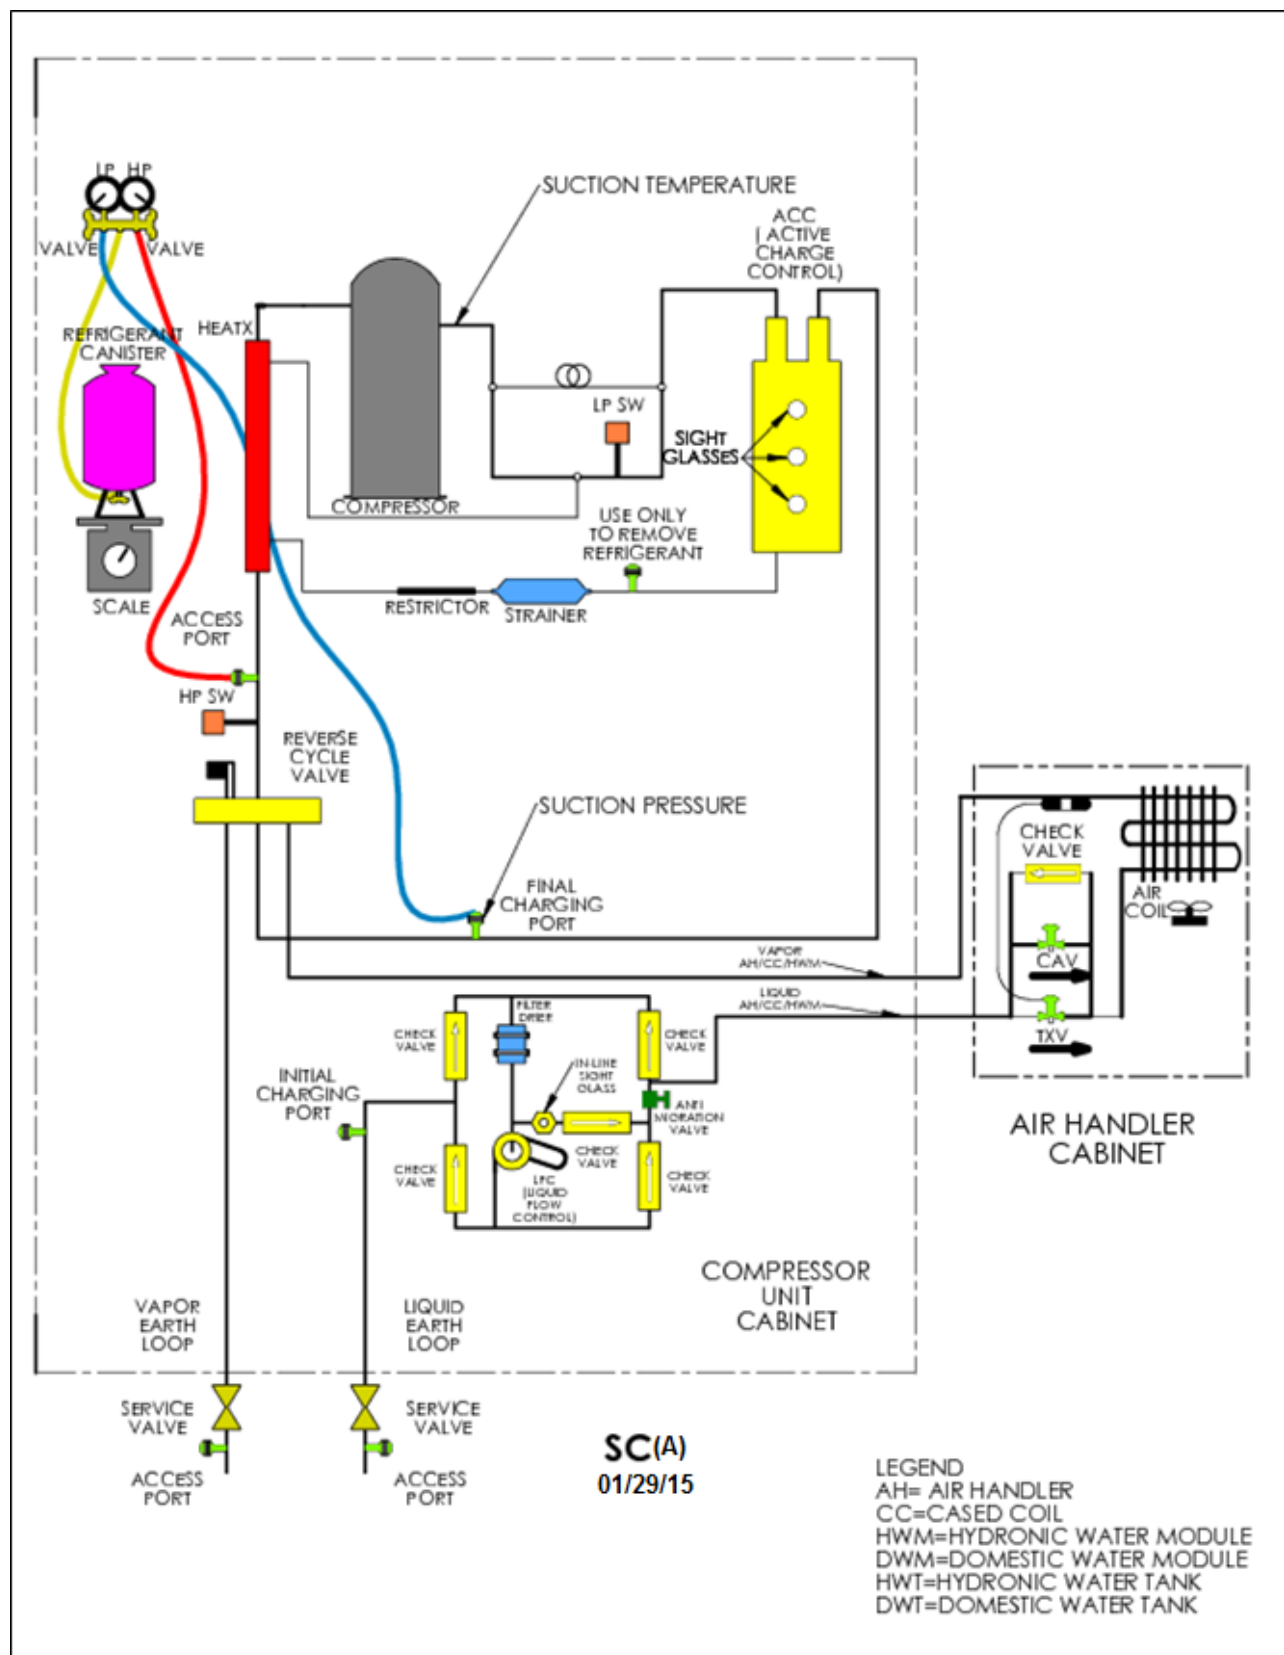
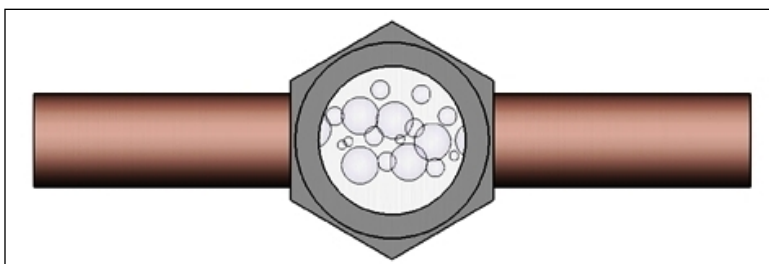
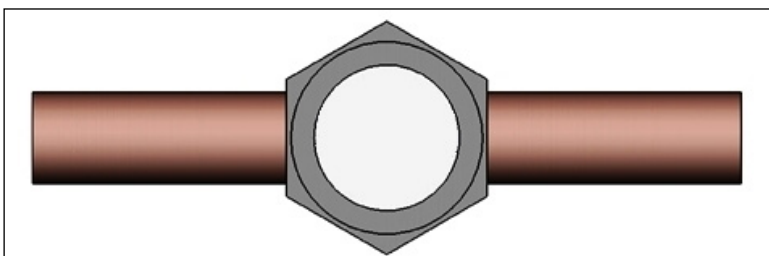
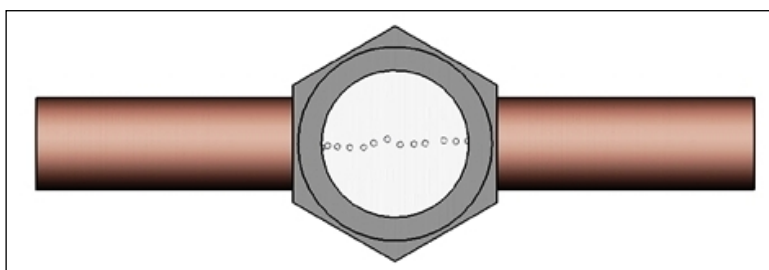

Figure 32. Suction Pressure and Temperature Measurements
Figure 33. Many Bubbles-Inline Sight Glass
Figure 34. Clear-Inline Sight Glass
Figure 35. Trickle of Bubbles-Inline Sight Glass
5. **Monitor the suction pressure**, as shown in Figure 32. If suction pressure is not yet up to 120 psig, the INLINE sight glass (not the ACC sight glass) will show refrigerant flow with many bubbles, as illustrated in Figure 33. This indicates that the Cooling Assist Valve (CAV) has not yet closed. Monitor the suction pressure rising. As the ground warms, the suction pressure will rise and the sight glass will show fewer bubbles.
6. **When suction pressure reaches 120 psig**, observe the **INLINE** sight glass. If it is either clear as shown in Figure 34, or has a trickle of bubbles as shown in Figure 35, no additional refrigerant charge is required. Go to step 10.
7. **When suction pressure is 120 psig**, there are still many bubbles in the **INLINE sight glass**, as shown in Figure 33, refrigerant must be added to the system through the final charging port.
8. **Observe the refrigerant flow in the INLINE sight glass.** If the sight glass has cleared, as shown in Figure 34, or there is a trickle of bubbles as shown in Figure 35, the system is fully charged.
9. **If there are many bubbles in the INLINE sight glass**, as shown in Figure 33, additional refrigerant is required. Repeat step 7 until the INLINE sight glass clears or has a trickle of bubbles as shown in Figure 34 or 35, respectively, but **DO NOT ADD MORE THAN THE FOLLOWING AMOUNTS OF REFRIGERANT TO THE SYSTEM DURING THIS PROCESS**:
11. The TXV is to be adjusted to provide 10°F to 15°F superheat while running in cooling mode. The first step is to utilize the final charging port and LP gage in Figure 32 to measure suction pressure. Next, apply a thermocouple at the compressor suction port as shown in Figure 32 by attaching the thermocouple lead with electrical tape, and wrapping with ½" thick insulation.